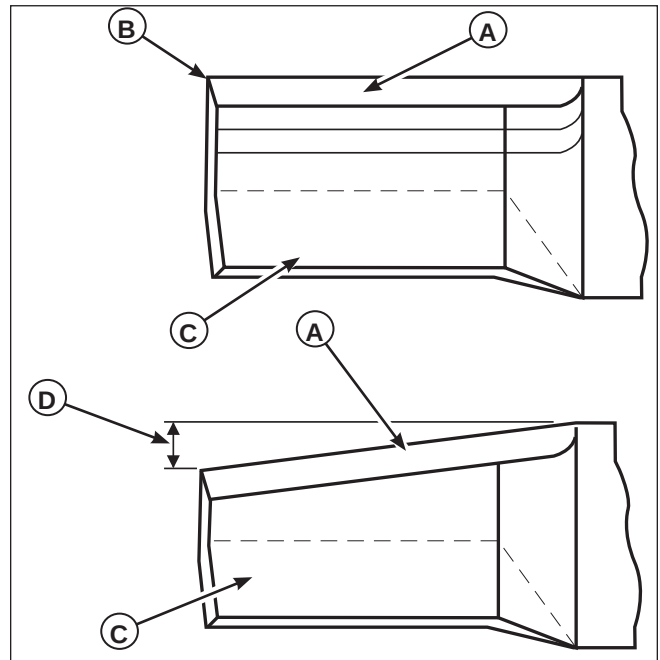

Figure 26. Inspecting the Mower Blade Tips
1. Inspect the mower blade (Figures 26 & 27). **Discard the mower blade if it has any of the below conditions.**